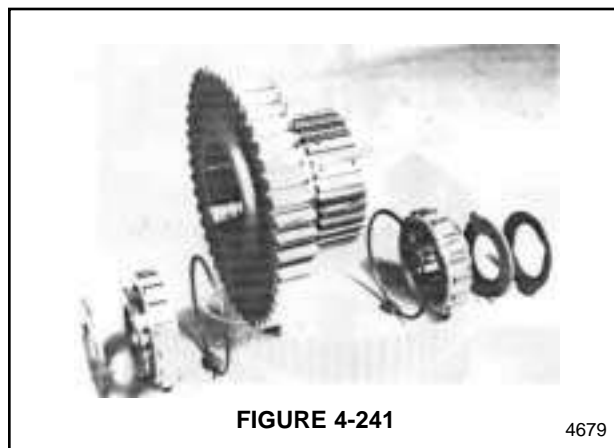

FIGURE 4-241
7. Apply grease to the parts. See Figure 4-241. Install the parts into the spur gear.